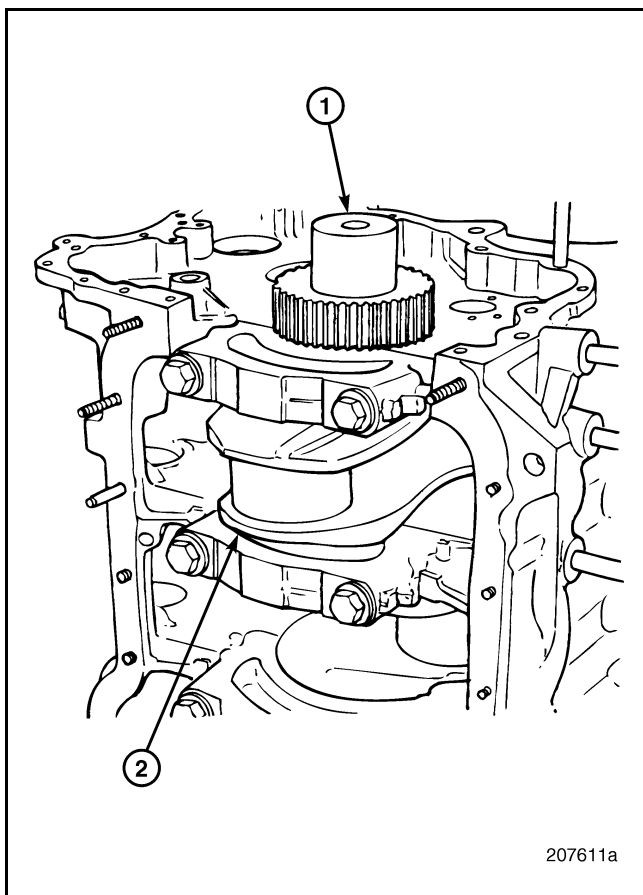

Figure 240 — No. 1 Cylinder (Crankshaft at BDC)
1. Rotate the crankshaft so that the journals for the No. 1 and No. 6 cylinders are at bottom dead center (BDC) (Figure 240).